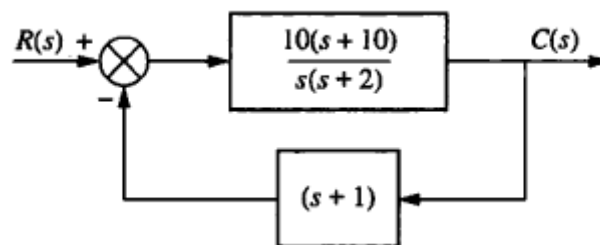

Figure 8
- 5B. For the system shown in Figure 8, determine the following 5